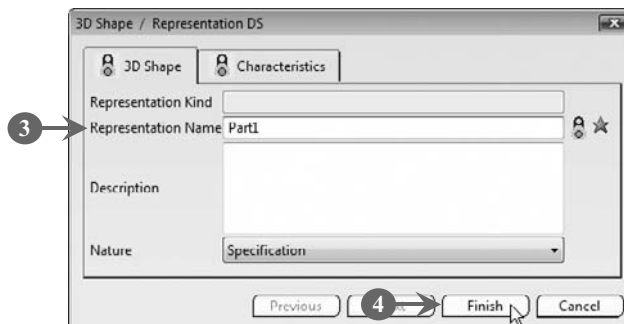

FIGURE 4.2
The **3D Shape/Representation DS** dialog box opens (**Figure 4.2**).
3. *Enter* a name for the first component in the **Representation Name** text box (**Figure 4.2**). In our case, we have entered **Part1**.
4. *Click* the **Finish** button to close the **3D Shape/Representation DS** dialog box, as shown in **Figure 4.2**: